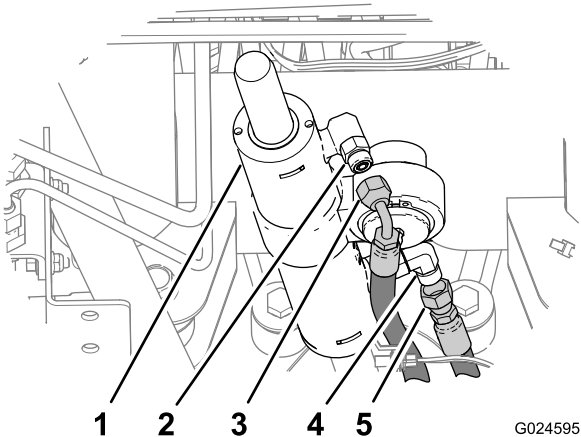

Figure 20
2. Disconnect the retract hose from the 90°-hydraulic fitting in the retract port of the steering cylinder (Figure 20).
3. Disconnect the extend hose from the straight-hydraulic fitting in the extend port of the steering cylinder (Figure 20).
- Connect the retract hose to the 90°-hydraulic fitting in the retract port of the steering cylinder (Figure 20 and Figure 24).
- Connect the extend hose to the straight-hydraulic fitting in the extend port of the steering cylinder (Figure 20 and Figure 24).